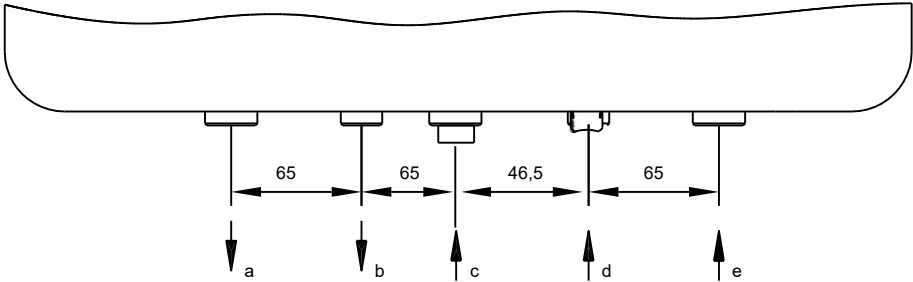

Figure 18
- The water and gas connections in between the assembly bracket fixed on the wall and the combi boiler are made by the pipe group and nipples as seen in the figure (Figure 18).